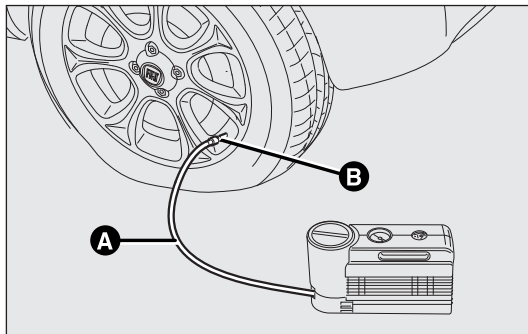

fig. 158
- Make sure the handbrake is on. Unscrew the tyre valve cap, take out the flexible filler tube A-fig. 158 and tighten the ring nut B on the tyre valve;